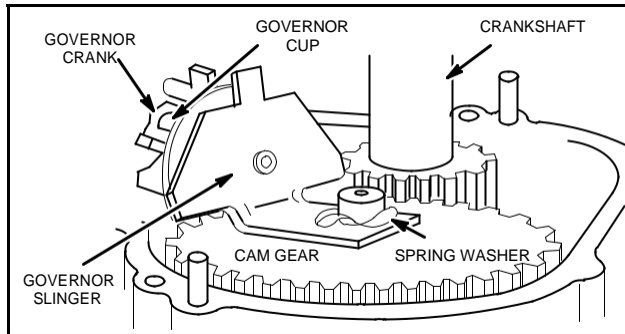

Fig. 344 - SHOWS SPRING ON CAMSHAFT AFTER GOVERNOR IS INSTALLED. MODELS 100900 AND 130700, 130900, 131900, ONLY.
1. On vertical crankshaft models the governor is part of the oil slinger and is installed as shown in Fig. 344.
**NOTE:** Models 100900, 130700, 130900, 131900, use spring washer as shown in Fig. 344.